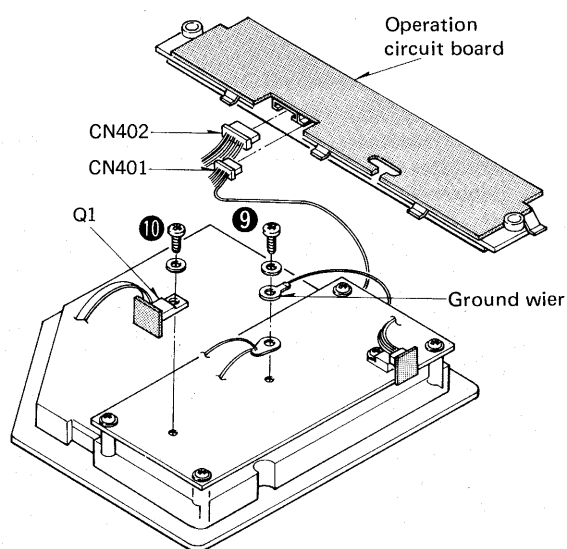

Fig. 2
3. Remove the ground lead wire setscrew (Fig. 2: ⑨) and the regulator transistor Q1 setscrew (Fig. 2: ⑩).